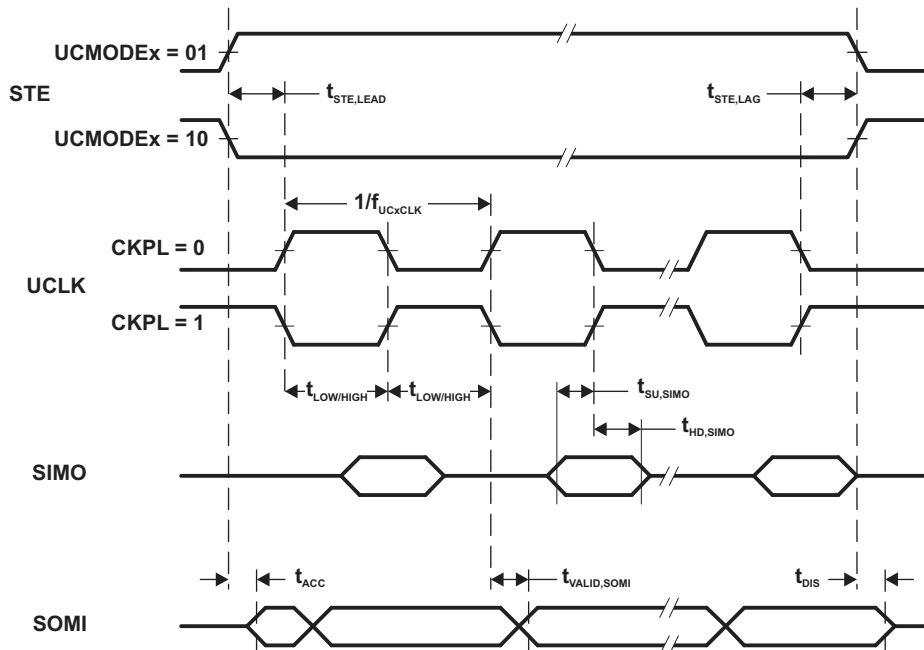
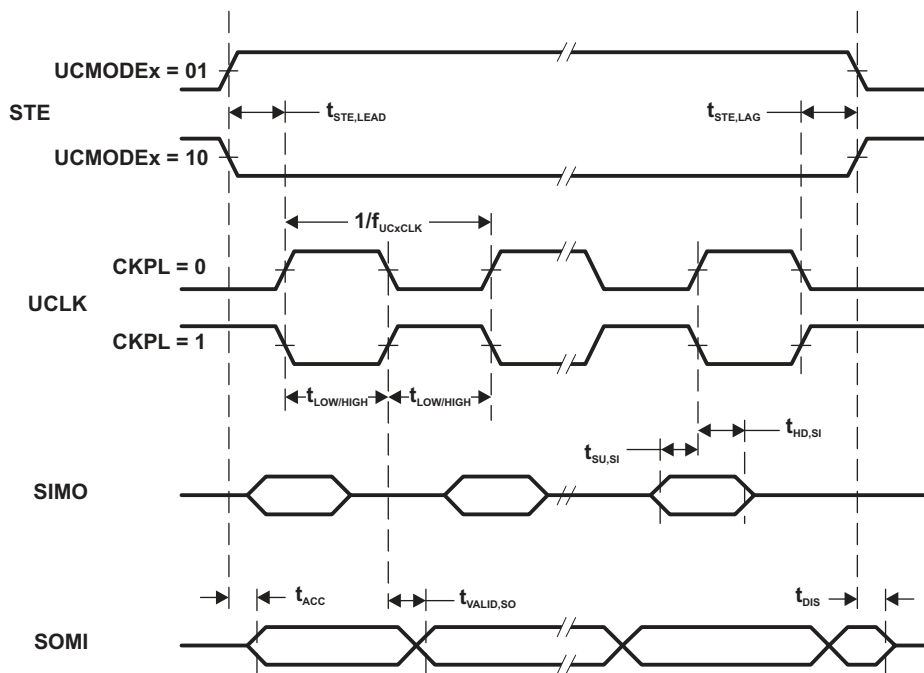

Figure 4-8. SPI Slave Mode, CKPH = 0
Figure 4-9. SPI Slave Mode, CKPH = 1
- (2) Specifies the time to drive the next valid data to the SOMI output after the output changing UCLK clock edge. See the timing diagrams in Figure 4-8 and Figure 4-9.
- (3) Specifies how long data on the SOMI output is valid after the output changing UCLK clock edge. See the timing diagrams in Figure 4-8 and Figure 4-9.